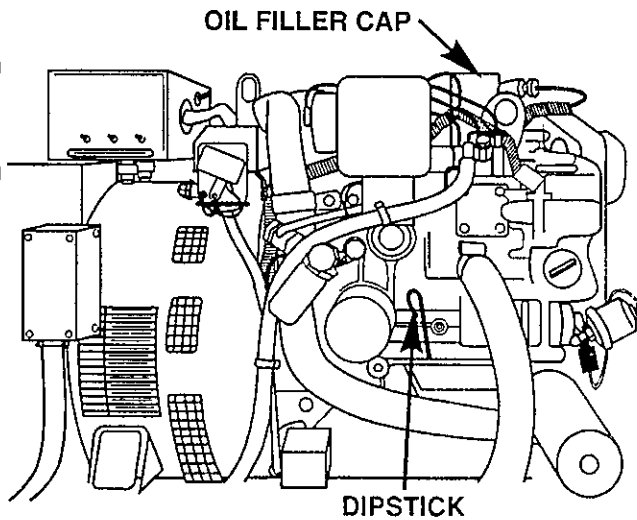

Figure 5-6 Checking Generator Oil Level
10. See Figure 5-6. Check generator oil level. Pull out dipstick and make sure level is between high and low marks.